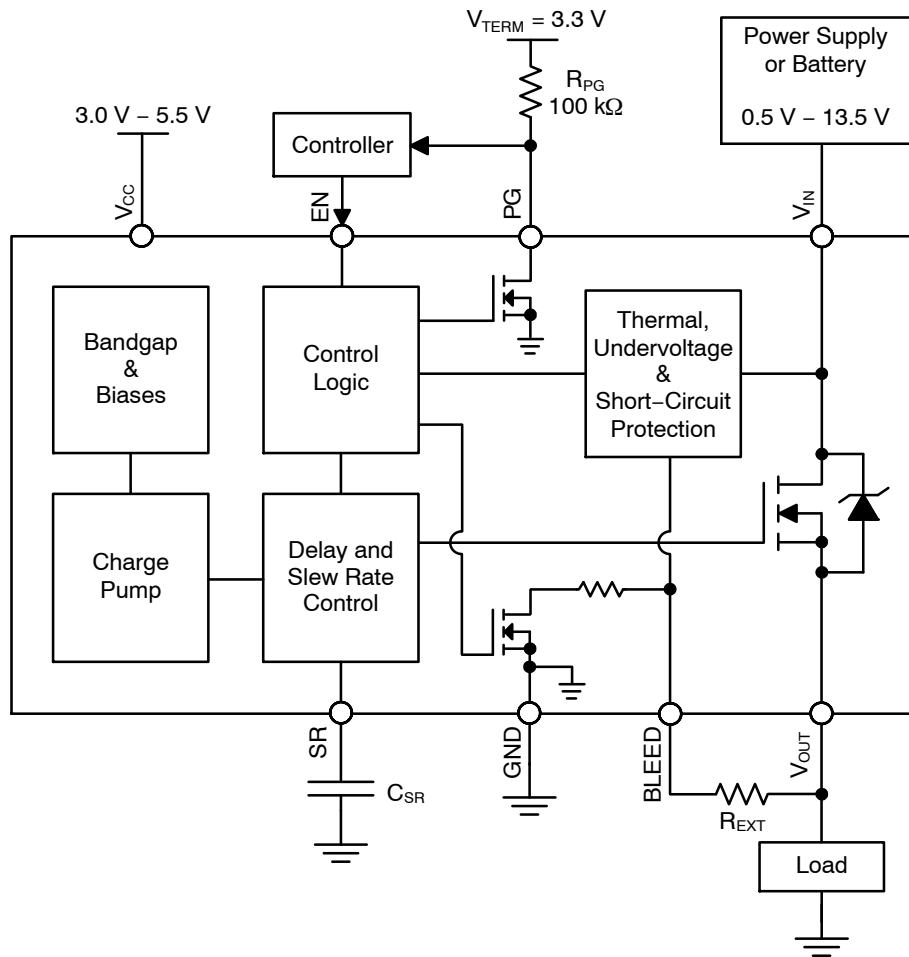
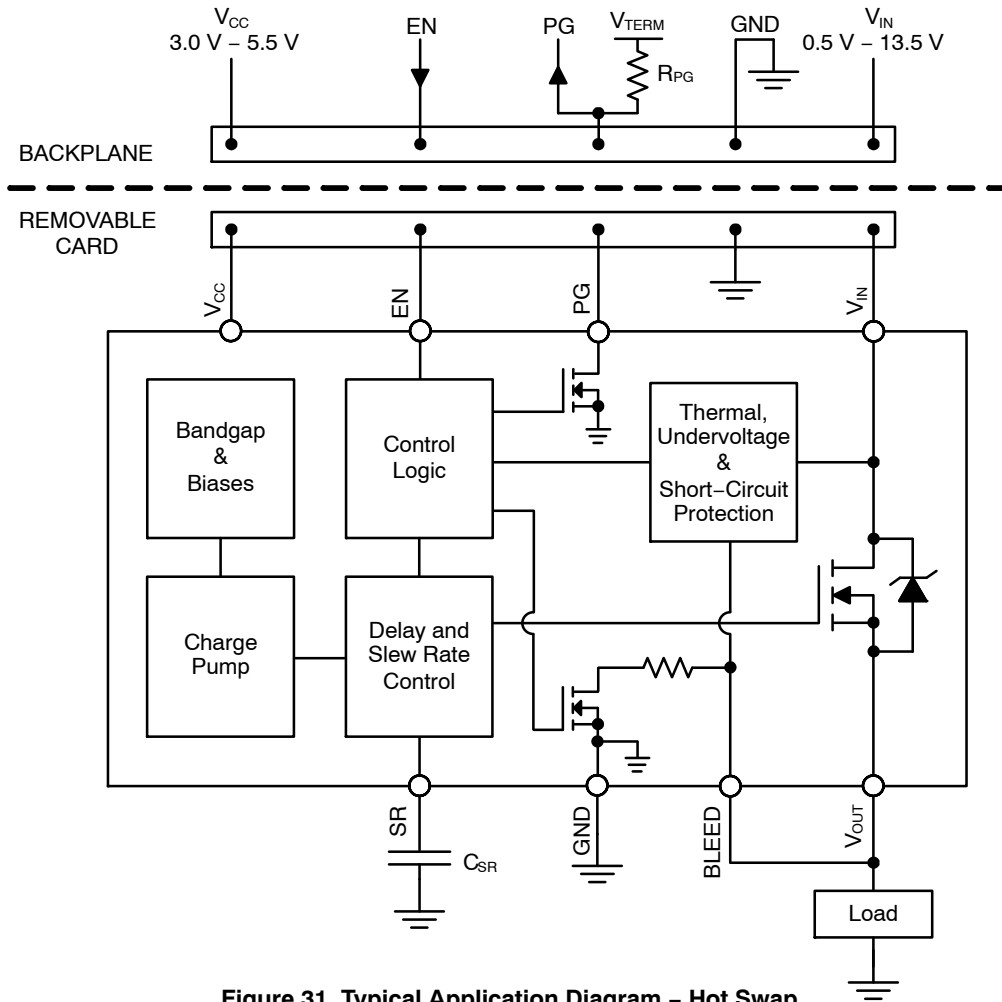

Figure 30. Typical Application Diagram - Load Switch
Figure 31. Typical Application Diagram - Hot Swap
It is required that the BLEED pin be connected to VOUT either directly (as shown in Figure 31) or through an external resistor, REXT (as shown in Figure 30). REXT should not exceed 1 kΩ and can be used to increase the total bleed resistance.
The NCP45560 devices have a power good output (PG) that can be used to indicate when the gate of the MOSFET is fully charged. The PG pin is an active–high, open–drain output that requires an external pull up resistor, RPG, greater than or equal to 1 kΩ to an external voltage source, VTERM, compatible with input levels of other devices connected to this pin (as shown in Figures 30 and 31).
The slew rate can be decreased with an external capacitor added between the SR pin and ground (as shown in Figures 30 and 31). With an external capacitor present, the slew rate can be determined by the following equation:
Once active, the circuitry monitors the difference in the voltage on the VIN pin and the voltage on the BLEED pin. In order for the VOUT voltage to be monitored through the BLEED pin, it is required that the BLEED pin be connected to VOUT either directly (as shown in Figure 31) or through a resistor, REXT (as shown in Figure 30), which should not exceed 1 kΩ. With the BLEED pin connected to VOUT, the short–circuit protection is able to monitor the voltage drop across the MOSFET.